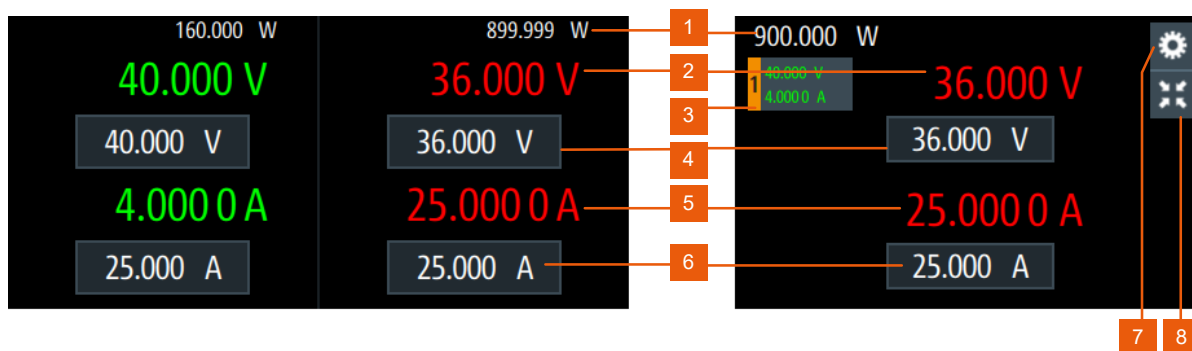

Figure 7-3: Channel display area for two-channel model in home window and detailed channel display window
For the two-channel model, tap anywhere in the home window to access the detailed channel display window. See Figure 7-3. You can access the instrument settings and home window with the respective icon on the channel display area. In addition, tap on the alternative channel view to see the details in the respective detailed channel display window.
1. Press [Settings] key at the front panel. Alternatively, select the "Settings" softkey in the home window for R&S NGT3621 or via the respective channel display area in detailed channel display window for R&S NGT3622. See Table 7-1 and Figure 7-3.